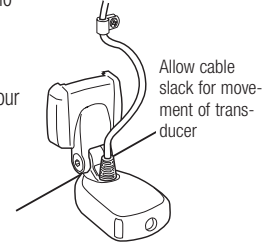

Figure 6
2. Using the Allen wrenches provided, loosely tighten the pivot screw (Figure 6). Do not completely tighten the assembly at this time, so the pivot angle can be adjusted later.
3. Secure the cable with clamps as shown. (Figure 6).